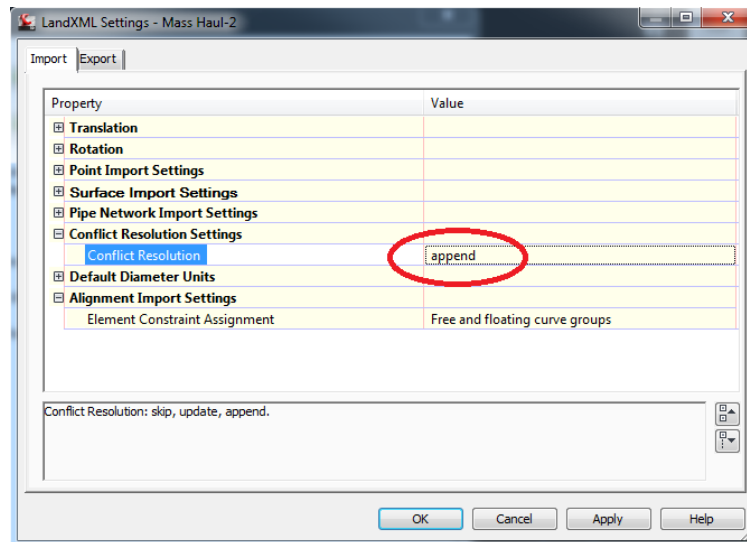

Figure 29: LandXML conflict resolution
6. In the LandXML Settings, under “Conflict Resolution Settings”, change the “Conflict Resolution” to **append** (see Figure 29).